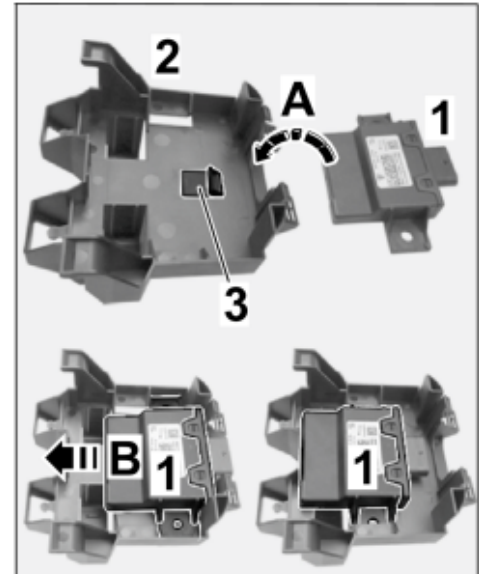

Figure 8
2.3.2 Insert new engine noise control unit at the underside in the control unit holder. ⇒ *Figure 8 -A-*
2.3.3 Push the engine noise control unit in the holder to the opposite side of the plug connection (⇒ *Figure 8 -B-*) until control unit engages in the holder.